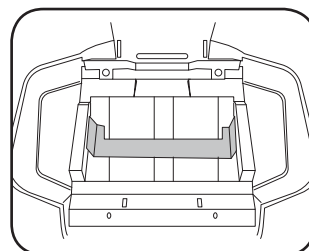

Fig. 1.9
9. To make room for a double DIN radio chassis, cut the plastic sub dash brace as shown. (Fig. 1.9)